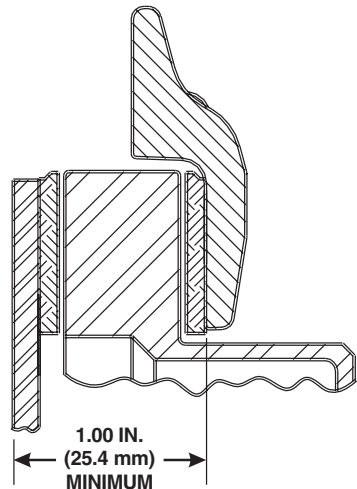

Figure A1-1
- If linings are still usable or are replaced, measure the cumulative thickness of two linings, disc and pressure plate as shown in Figure A1-1. If the stack measures less than 1.00 (1 inch) with good linings (linings above .100 inch) the brake disc is considered below minimum wear thickness and should be replaced.